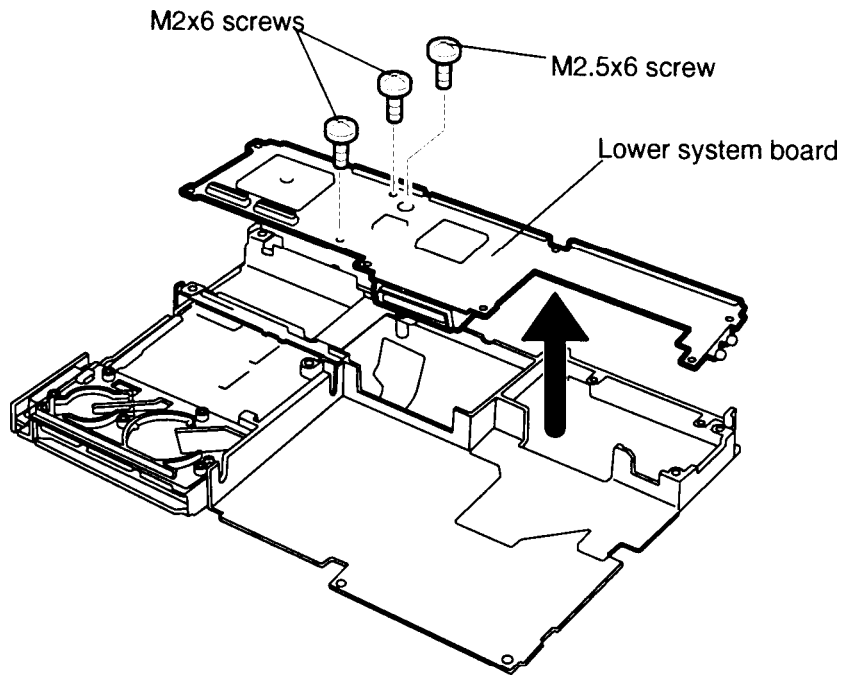

Figure 4-40 Removing the lower system board
- Remove one **M2.5x6 screw** and two **M2x6 screws** securing the lower system board and lift it out of the base assembly frame (Figure 4-40).
2. Secure the **lower system board** with **one M2.5x6 screw** and **two M2x6 screws** (Figure 4-40).